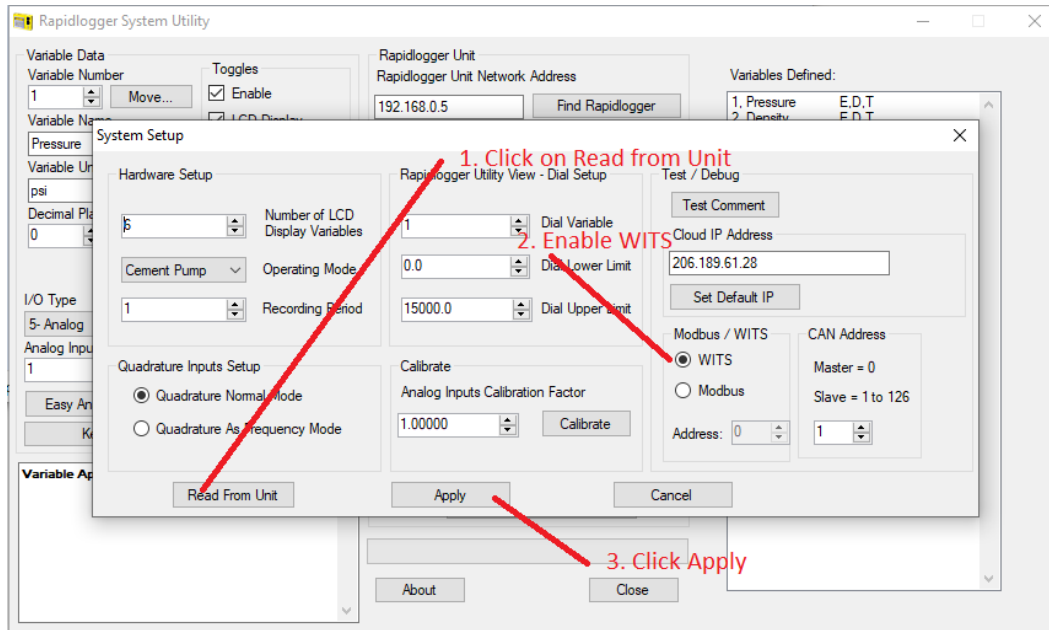

Figure 3: Enabling WITS output from the unit in the Rapidlogger Utility System Setup
2. From the Rapidlogger unit itself, without a PC. A mapping file named `_wits0.csv` is placed in the unit by ftp, WITS is enabled in the Utility's System Setup (Figure 3), and the unit starts sending WITS0 a few seconds after power-up. See Tech Note #22, second method.